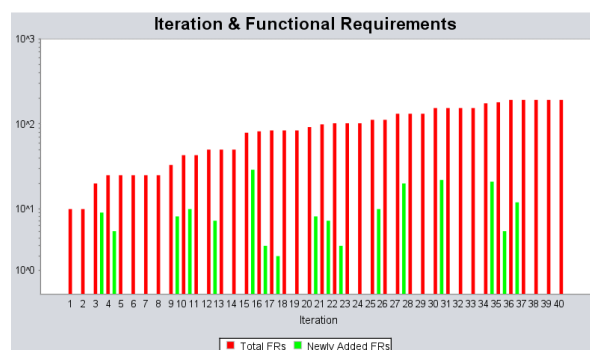

Figure 14: Graphical Analysis
- At the bottom of the interface user can select any parameter from the drop-down list and click on "*Submit*" button. The data for the selected parameter in the form of a graph is displayed (refer to Figure 14).